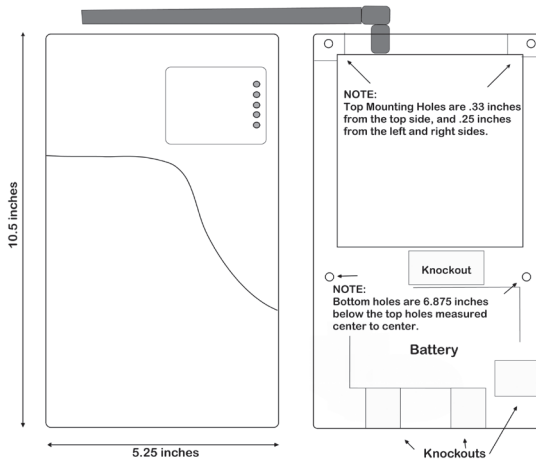

FIGURE 2: Inside & Outside Mounting Dimensions for the 2530
5. Position the bottom of the 2530 enclosure where it will be installed. Use four (4) #6 screws and mount the unit using the four holes in the enclosure's plastic bottom. The 2530's dimensions are shown in Figure 2.